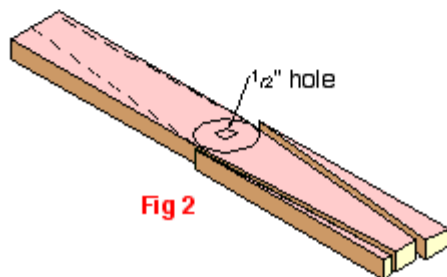

Fig 2
2. Drill No. 1, 3 to 12 & 14 with a 1/2" hole clean through in the centre middle see Fig 2.
3. Counter drill a 1" dia hole, 1" deep, on boards No. 1 and 14 ONLY. See Fig 2.a This allows the nuts & washers to be counter sunk in the top and bottom boards. Board 14 must be neatly drilled with a forstner bit, with no tear out as this hole will later be plugged.
6. To reduce the amount of rotary shaping time later, some waste material can be sawn away from the spiral timbers (ie Nos 3 - 12) This is drawn onto the ends of the boards and as shown at Fig 2, a cutting line is transferred to the board face ready for sawing. This is optional as the waste can be shaped away after gluing.
10. Fig 2 shows how lines are transcribed onto the face of most boards to show the waste sawing line. Every saw line runs back to the middle outside edge so that a propeller shape emerges on each board in the spiral. Later when shaping, you can, if you wish, accentuate this hub shape. Of course the steel rod is contained in